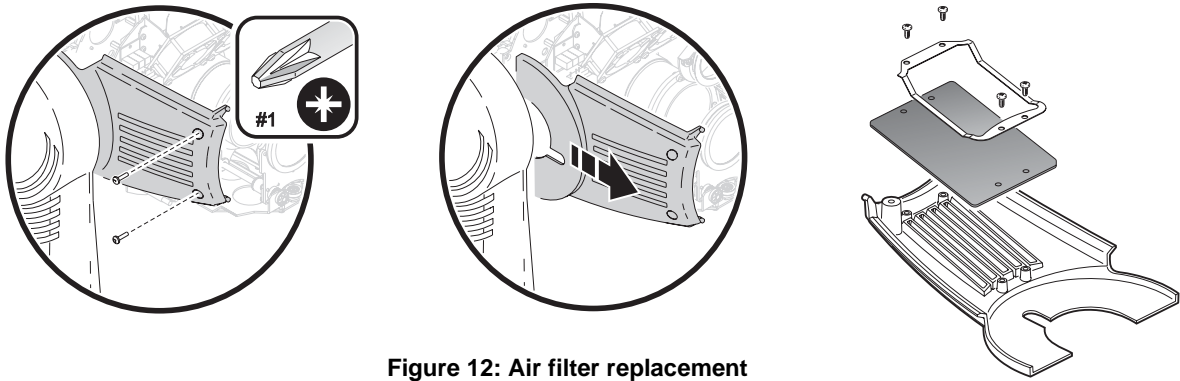

Figure 12: Air filter replacement
6. See Figure 12. On each side of the head, remove the 2 screws that hold the side covers and slide the covers forward to remove. Unscrew the air filter clips and inspect the filter elements. If they are dirty, soak them in warm soapy water and blot dry. If the filters are not in perfect condition, replace them. Reinstall the filters and side covers.